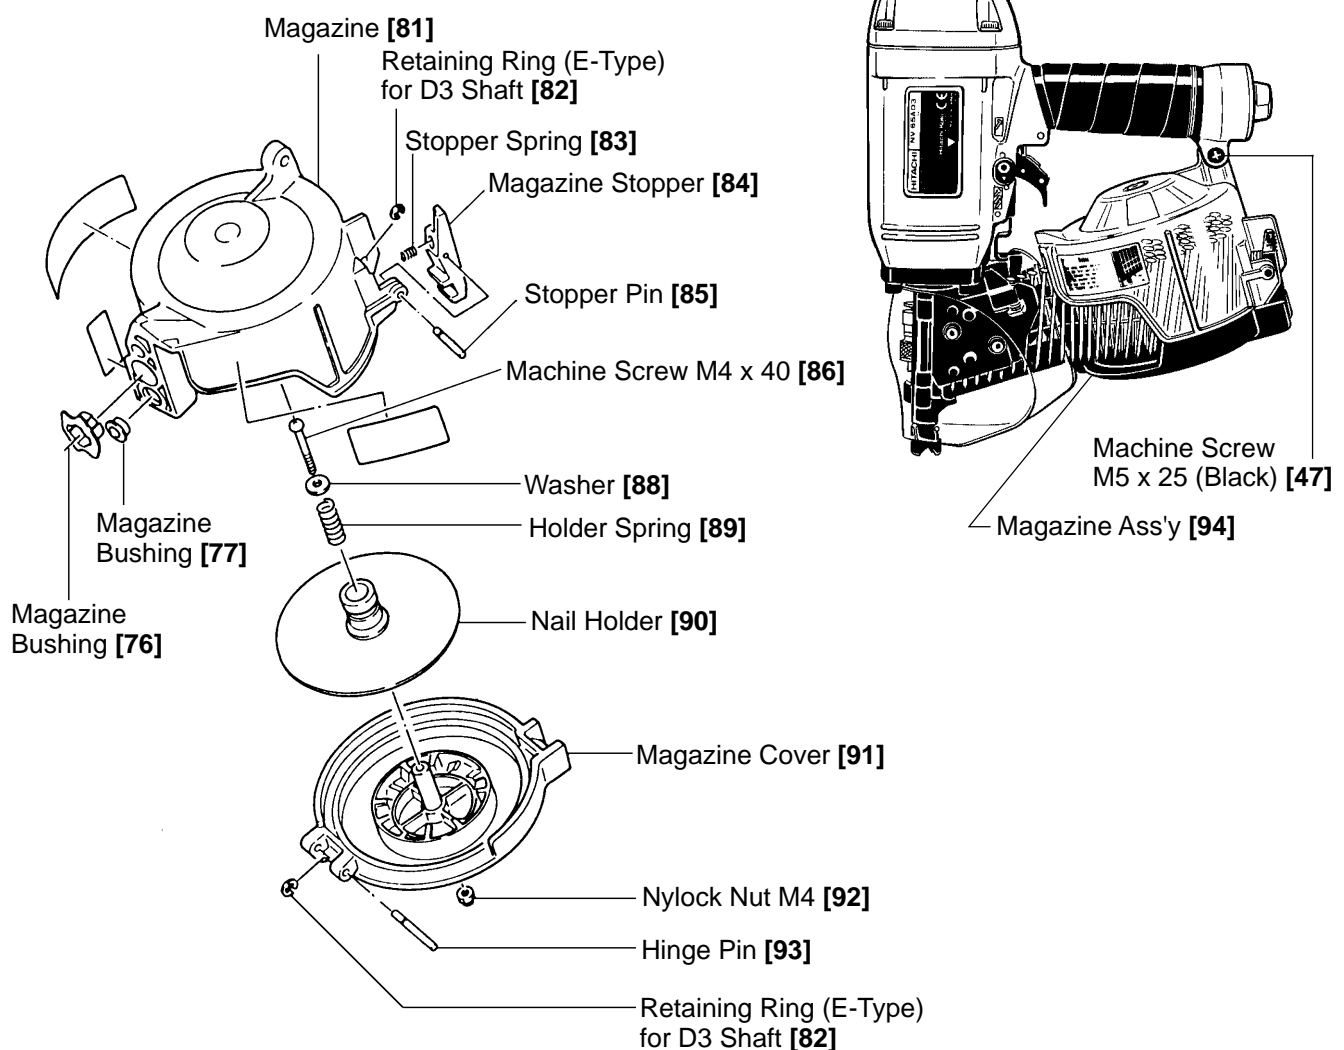

Fig. 15 Disassembly and reassembly of the magazine section
(1) Disassembly and reassembly of the Magazine Ass'y [94] (See Fig. 15)
(2) Disassembly and reassembly of the Nail Holder [90], the Holder Spring [89], etc. (See Fig. 15)
(3) Disassembly and reassembly of the Magazine Cover [91] (See Fig. 15)
(4) Disassembly and reassembly of the Magazine Stopper [84] (See Fig. 15)